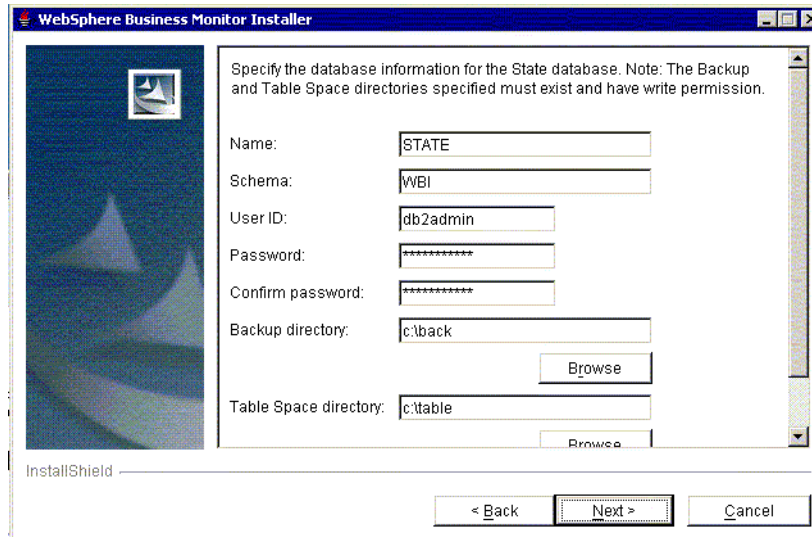

Figure B-6 Monitor Server installation: Database
- ▶ Click *Next* and enter the database user ID (db2admin) and password, directories for backup and tablespace (which must already exist in the file system) for the STATE database (Figure B-6).